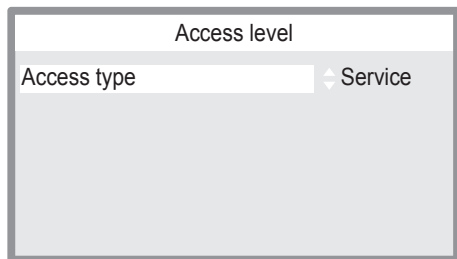

Fig. 8.6
- Press key 15 or 16 (Fig. 8.1) to select "Service" (Fig. 8.6).